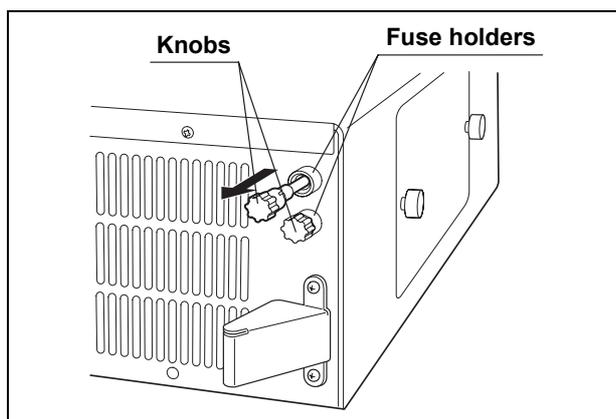

Figure 4.2
5. Turn the knob of the fuse holder counterclockwise about 90°, then pull it out straight (see Figure 4.2).